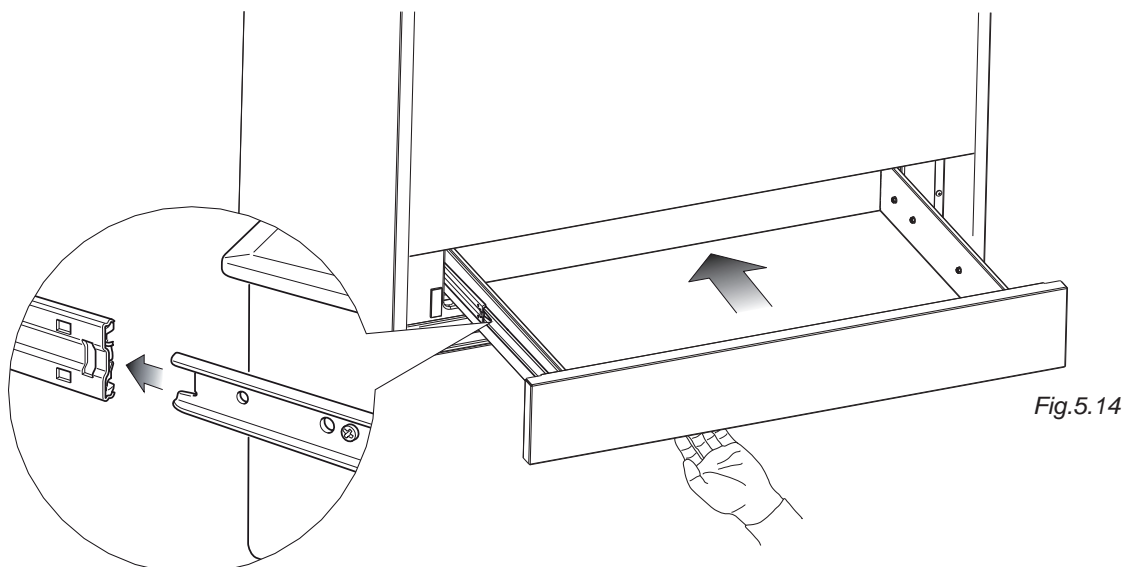
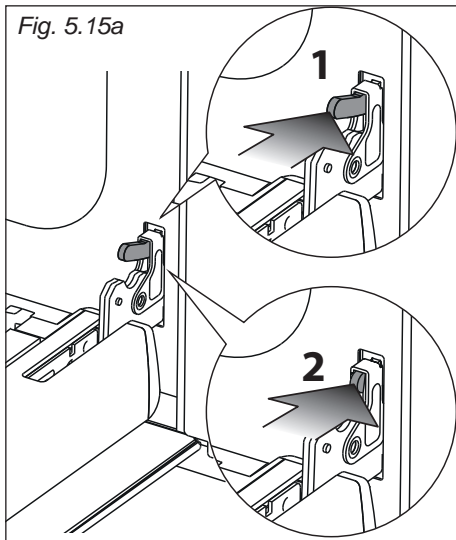

Fig. 5.15a
Fig. 5.15b
- Open the door to the full extent (fig. 5.15a) and check to see which side the damper hinge is fitted for the soft close feature as shown in fig. 5.15a. This may be fitted on left or right of the door depending on exact model.
- Push the Damper Pin (arrow 1 in fig. 5.15a) slowly, applying pressure until it moves in towards the oven and becomes flush with the hinge lever (arrow 2 in fig. 5.15a). The Damper Pin does not react immediately and is very slow to move as it necessary to overcome the inertia of the soft close mechanism. If the Damper Pin is difficult to move, it may be necessary to use a suitable tool to allow extra pressure to be exerted, for example the back of a teaspoon. Please pay special care whilst pressing to avoid slipping and injury.
- Keeping the Damper Pin flush with the hinge lever (arrow 2 in fig. 5.15a), rotate the hinge lever forward by using a small flat screw driver (arrow 3 in fig. 5.15b) ensuring that you do not damage the enamel or oven.
- Rotate the hinge lever completely (arrow 4 in fig. 5.15b). Repeat this step for the other hinge.